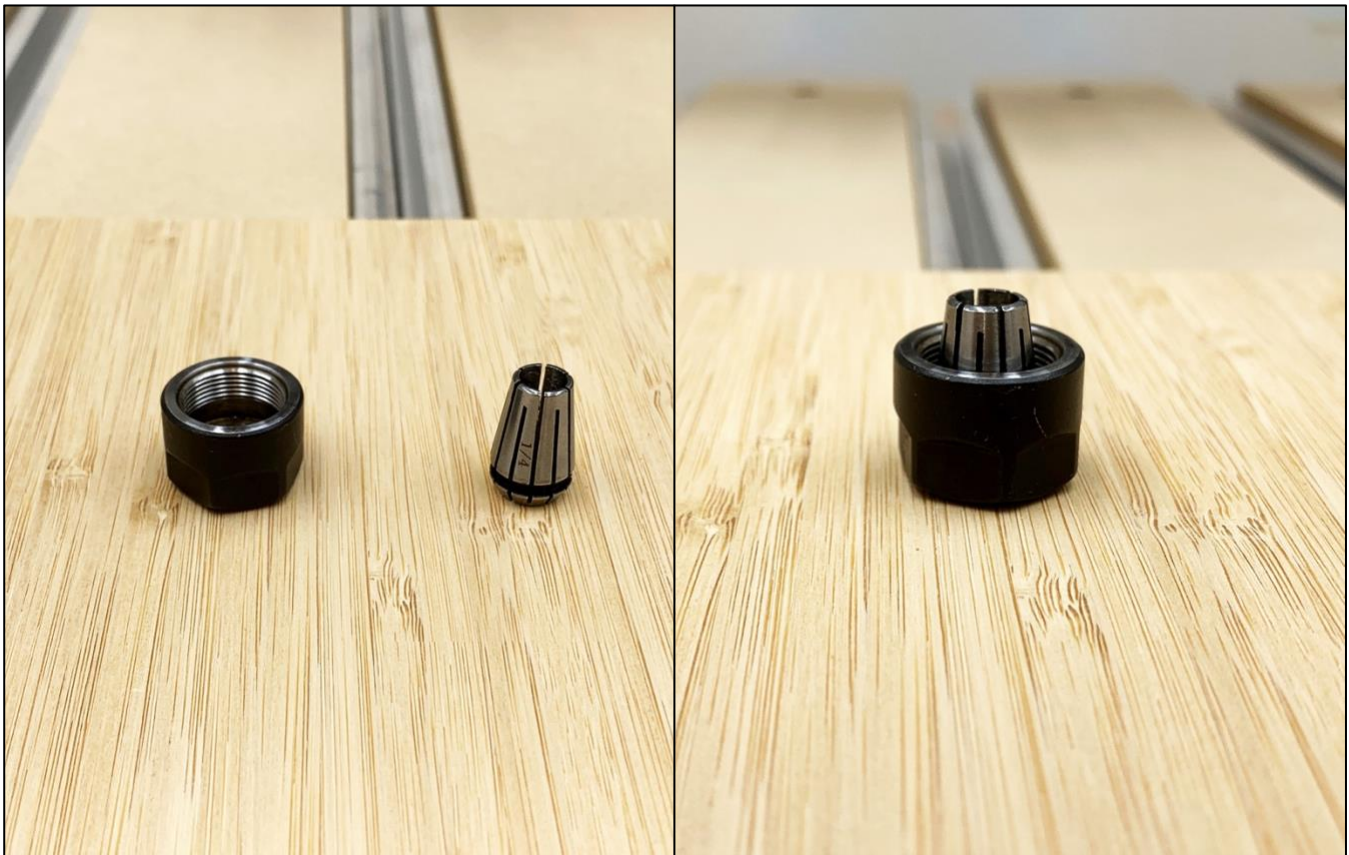

Figure 14
2. Place the collet nut and one of the ER11 collets right-side up on a flat surface. See *Fig. 14*.
3. Place the grooved base of the collet into the nut and use your thumb to press the top of the collet down. You will hear a “click” as the base snaps into the eccentric ring inside the nut. See *Fig. 14*.